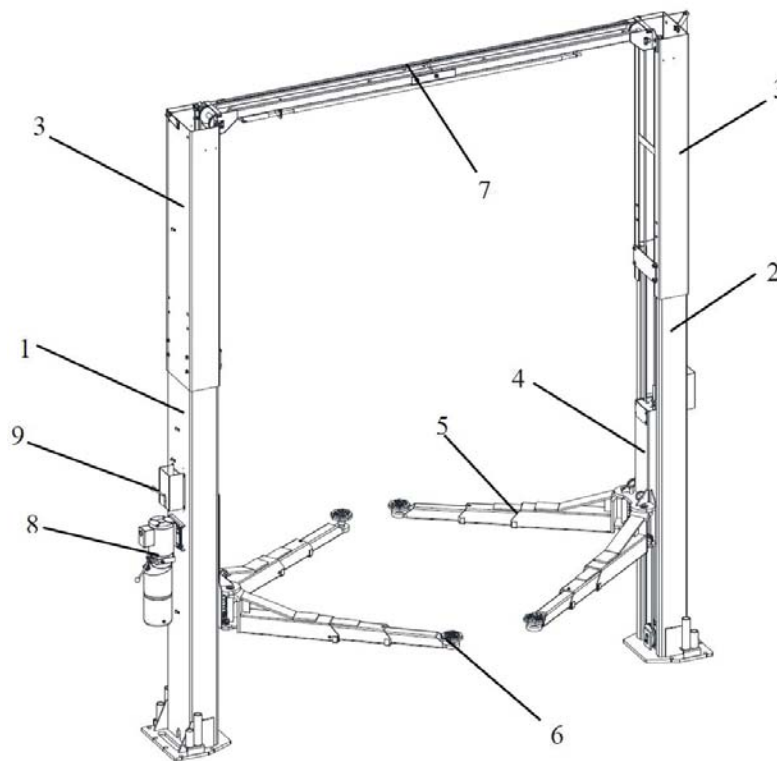

Figure 2 – Lift
This chapter describes the lift's principal elements, allowing the user to be familiar with the machine. As shown in figure 2, the lift is composed of two columns: power-side column (1) and off-side column (2) with the extension (3) on each, each equipped with a carriage (4) and a pair of lifting arms (5) with the adaptor (6) anchored to the ground by means of the column base. The overhead beam (7) is equipped with the anti-crush safety bar and an overhead cut-off switch for protection of the vehicle roof. Raising motion is carried out by pushing the lifting button on the power unit (8), which delivers the hydraulic fluid to cylinders inside the columns. The mechanical safety release is carried out by pushing the lock release lever (9) on the power-side column. Lowering motion is controlled by pushing the lowering lever on the power unit and carried out under the weight of the load lifted. The synchronization is controlled by the equalizer cables. The arm locks can be engaged automatically when the lift is raised.